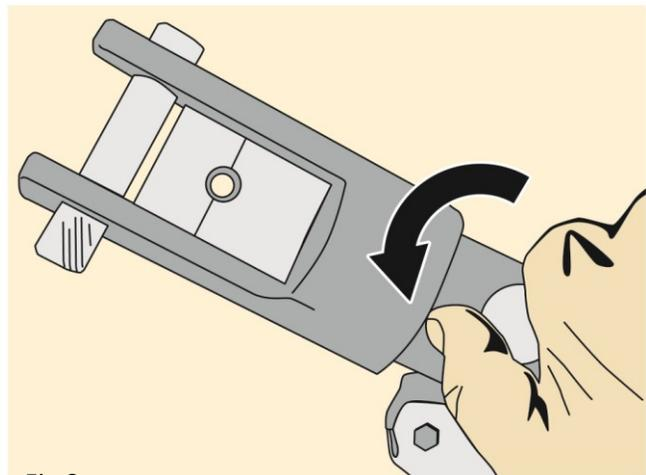

Fig 8
- Turn the knob on the Cable Crimper counterclockwise to open the jaws and position the fitting 1/8" from the end of the fitting (Fig. 8).